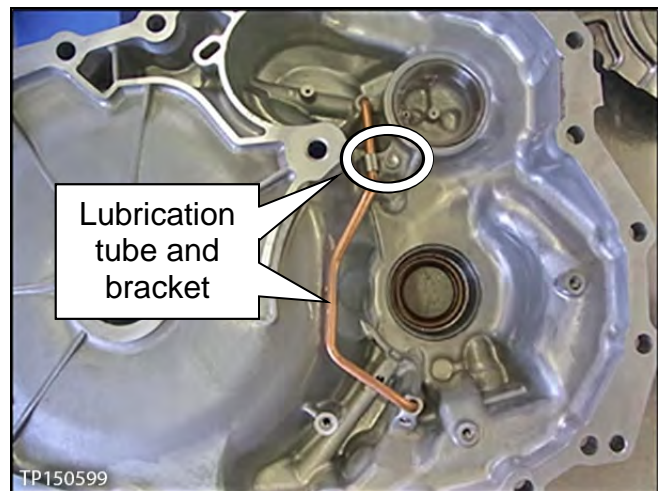

Figure 51
7. Install the lubrication tube and bracket (see Figure 51).